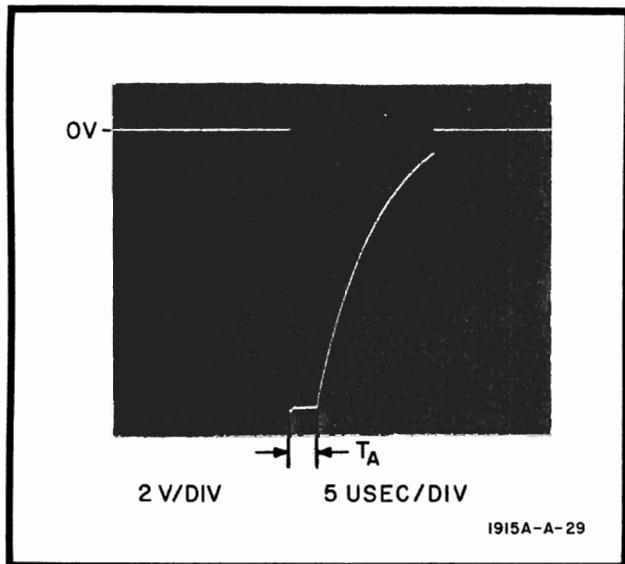

Figure 5-2. Negative Overload Test Pulse
- d. Using monitor oscilloscope observe Model 1915A output. Output should be similar to that shown in Figure 5-2. Limit: T_A should be less than 5 usec.